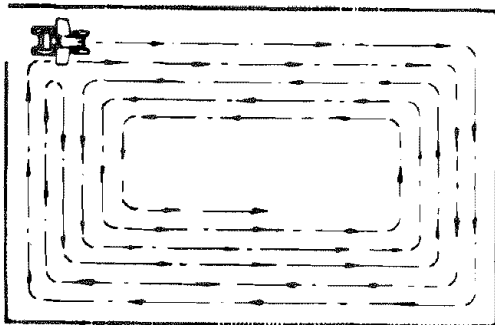

FIGURE 18
- c. When mowing large areas (Fig. 18), start by turning to the right so that the clippings will be discharged away from shrubs, fences, driveways, etc. After two or three rounds, mow in the opposite direction making left hand turns until finished.